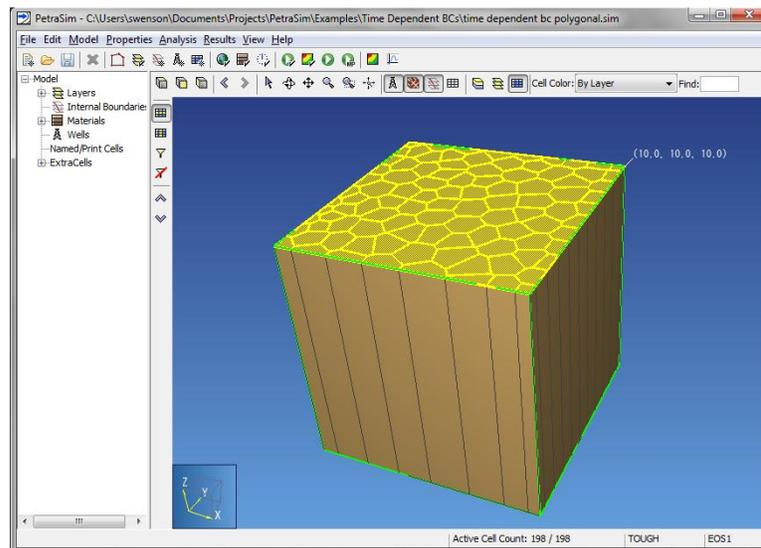

Figure 5: Select all cells in the top layer
1. Click the **Select Mesh Layer** tool, then select the top thin layer. This will select all the cells in that layer, Figure 5.